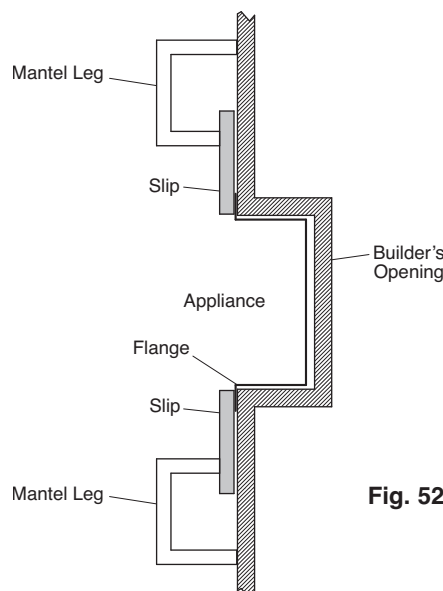

Fig. 52
2. Fix the supplied brackets to the fixing blocks, mark the holes in the chimney breast and glue and screw the legs to the wall (Fig. 52).